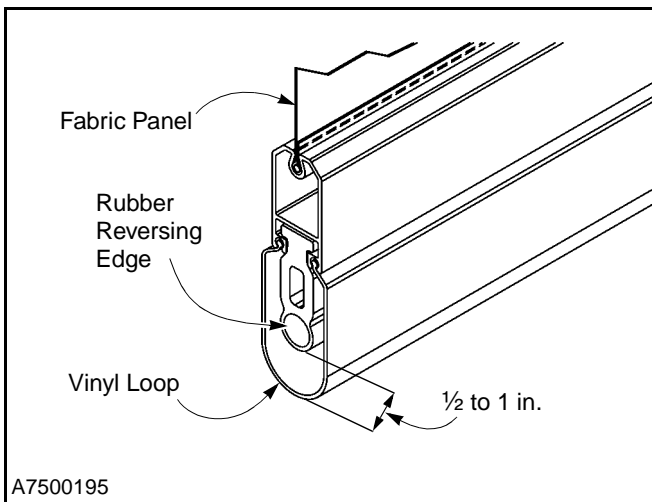

Figure 60
1. With the door in the closed position, check the vinyl loop on the bottom bar. It should be in the position shown in Figure 60.
Damage to the rubber reversing edge or other bottom bar parts can occur if the door seal is allowed to seal too tightly against the floor. (See Figure 60.)